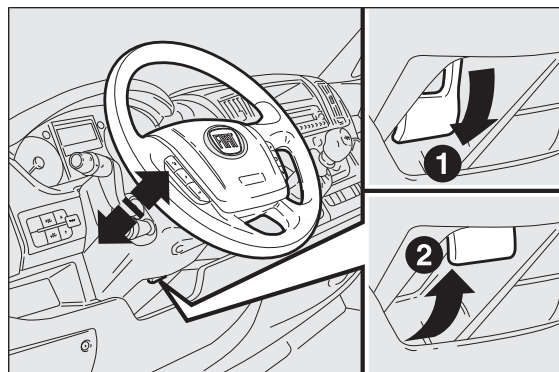

fig. 40
- ☐ release the lever fig. 40 by pulling it towards the steering wheel (position 2);